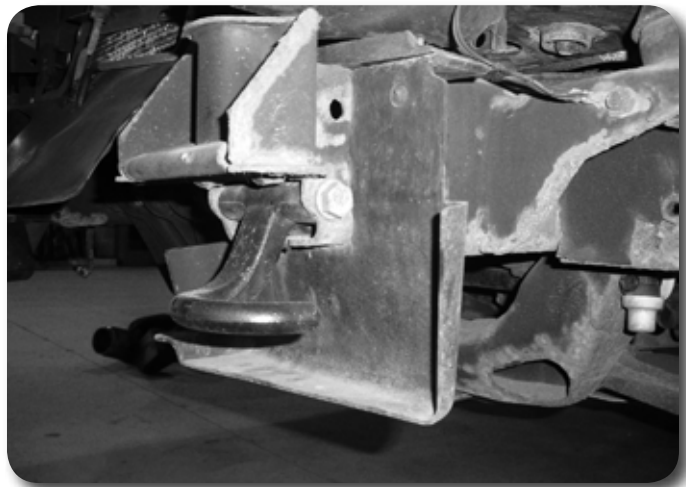

Figure 25
48. Remove the plastic tow hook valences, these will not be re-used Figure 25.